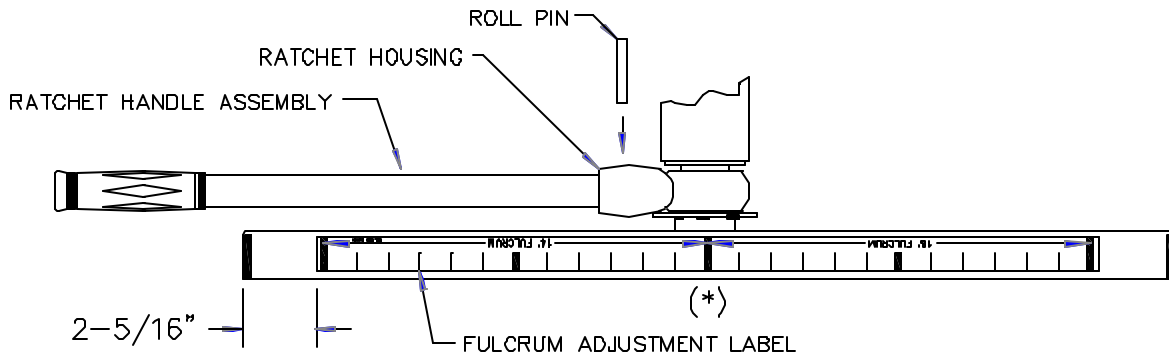
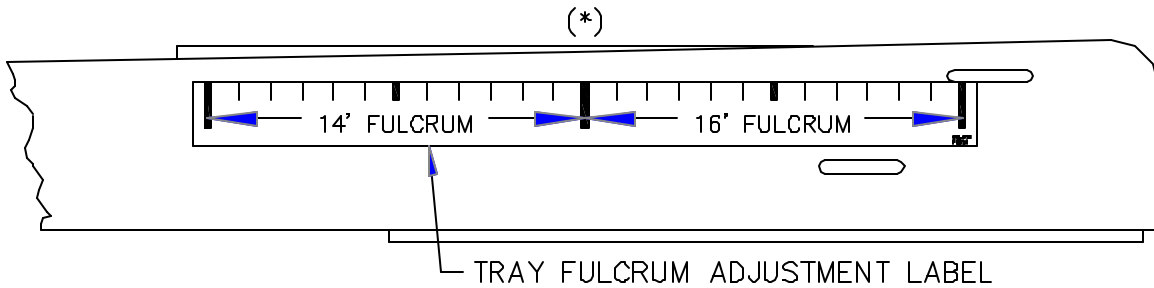

FIG. 15
FIG. 16
- ① GEAR RACK ASSEMBLY
- ② FULCRUM AXLE ASSEMBLY
- ③ 3/8"-16UNC X 2" HEX HEAD CAP SCREW S/S
- ④ 3/8" X 7/8" NYLON PROTECTIVE WASHER
- ⑤ 3/8" X 7/8" FLAT WASHER S/S
- ⑥ 3/8" LOCK WASHER, SPLIT S/S
- ⑦ 3/8"-16UNC HEX NUT S/S
12. Stick the Fulcrum Adjustment Label over the Gear Rack Cover as shown in Fig. 15. Insert the Ratchet Handle Assembly into the Ratchet Housing and tap roll pin through the holes to secure.
13. Stick the Tray Fulcrum Adjustment Label on the right outside wall of the Tray as shown in Fig. 16 with the centerline of the Tray Fulcrum Adjustment Label (*) aligned with the centerline of the Fulcrum Adjustment label (*) as indicated in Fig. 15.